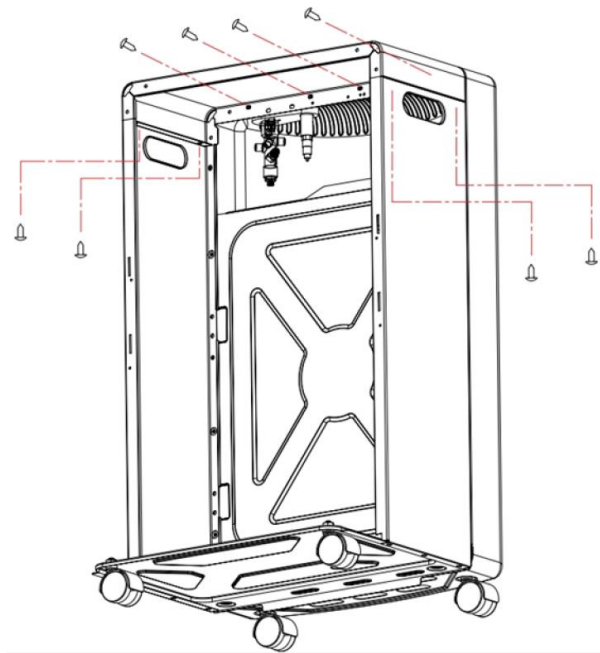

Fig. 4
4. Attach the top panel (5) to the left and right sides with 8 x 4*8 mm screws  (see fig. 4)